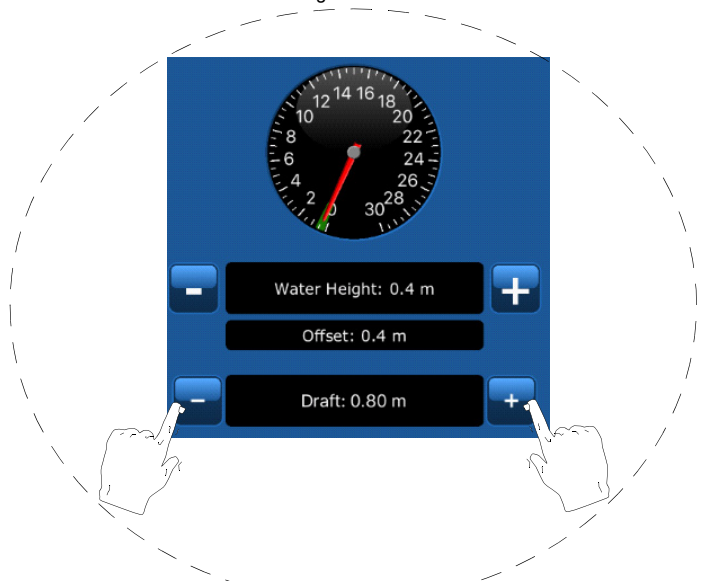

Figure 16. Calibrate the Depth function
4. Touch **Advanced** (Figure 16).